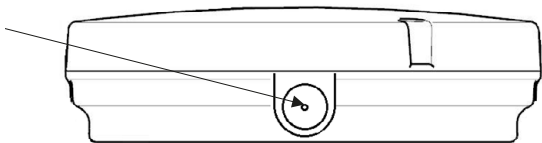

Fig. 2
- Feed the mains cable through the rubber grommet to retain IP rating, or alternatively, drill out one of the two 20mm drilling guides on the sides of the fitting (see Fig. 2)